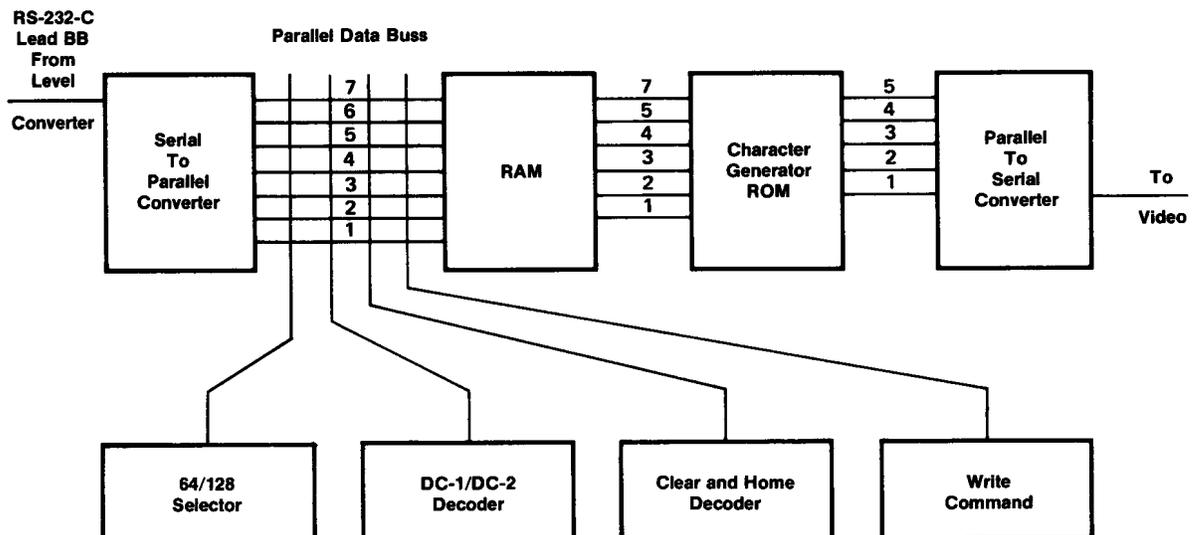

Figure 9, Data Converter Signal Flow Block Diagram
3.09 Terminal logic serial to parallel conversion, Figure 9, depicts the flow of data through the logical portion of the terminal. When the carrier detector senses a carrier, the serial-to-parallel converter is enabled to accept data. As a start pulse Mark-to-Space transition is detected, control signals step the data into the serial-to-parallel converter bit by bit. The start bit is stepped out of the converter by control logic just as the last information bit steps in. Control logic now stops further bits from entering the converter, holds the seven information bits on the parallel data buss momentarily, alerts other control logic and the decoders ahead with a control signal called OPERAND (or OPD) and prepares to accept a new character in the converter.